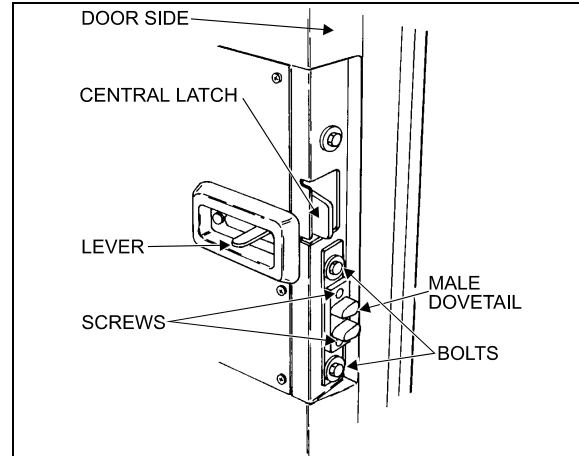

FIGURE 19: DOOR LATCH (COACH)
2. Remove the Allen button head screw and the washer retaining the rod end with bearing to the upper hinge. See figure 19.
3. Remove the Allen button head screw and the washer retaining the ball and socket rod to the upper hinge. See figure 19.
3. Remove the Allen button head screw and the washer retaining the rod end with bearing to upper hinge. See figure 19.